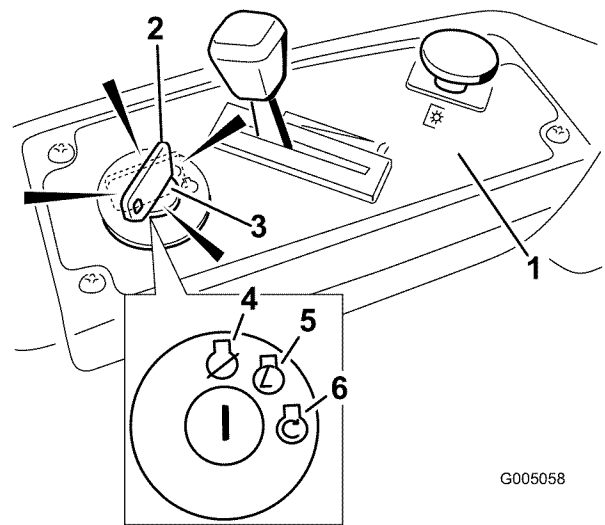

Figure 10
3. Move the throttle lever to Choke before starting a cold engine (Figure 10).
- Turn the ignition key to Start to energize the starter. When the engine starts, release the key (Figure 10).
- After the engine starts, move the throttle lever to Fast (Figure 10). If the engine stalls or hesitates, move the throttle lever back to Choke for a few seconds. Then move the throttle lever to the desired setting. Repeat this as required.
2. Move the throttle lever to between Fast and half throttle (Figure 10).